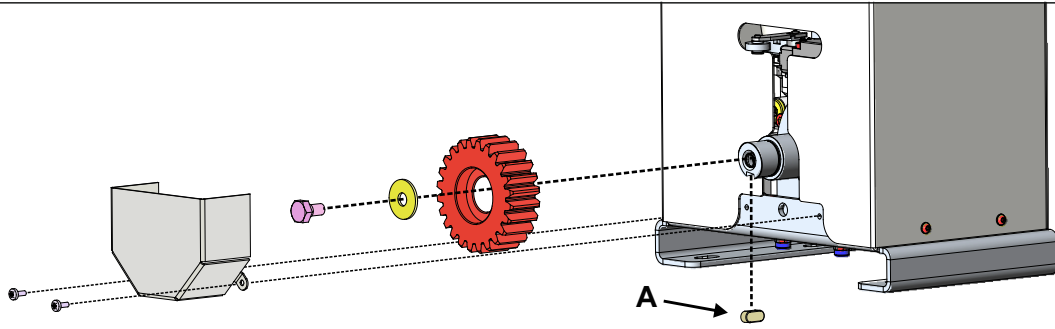

Fig. 9
4.1. First, insert the «A» pin into the gearmotor shaft as shown in Fig. 9
4.2. Mount the pinion on the shaft of the gearmotor as shown in Fig. 9